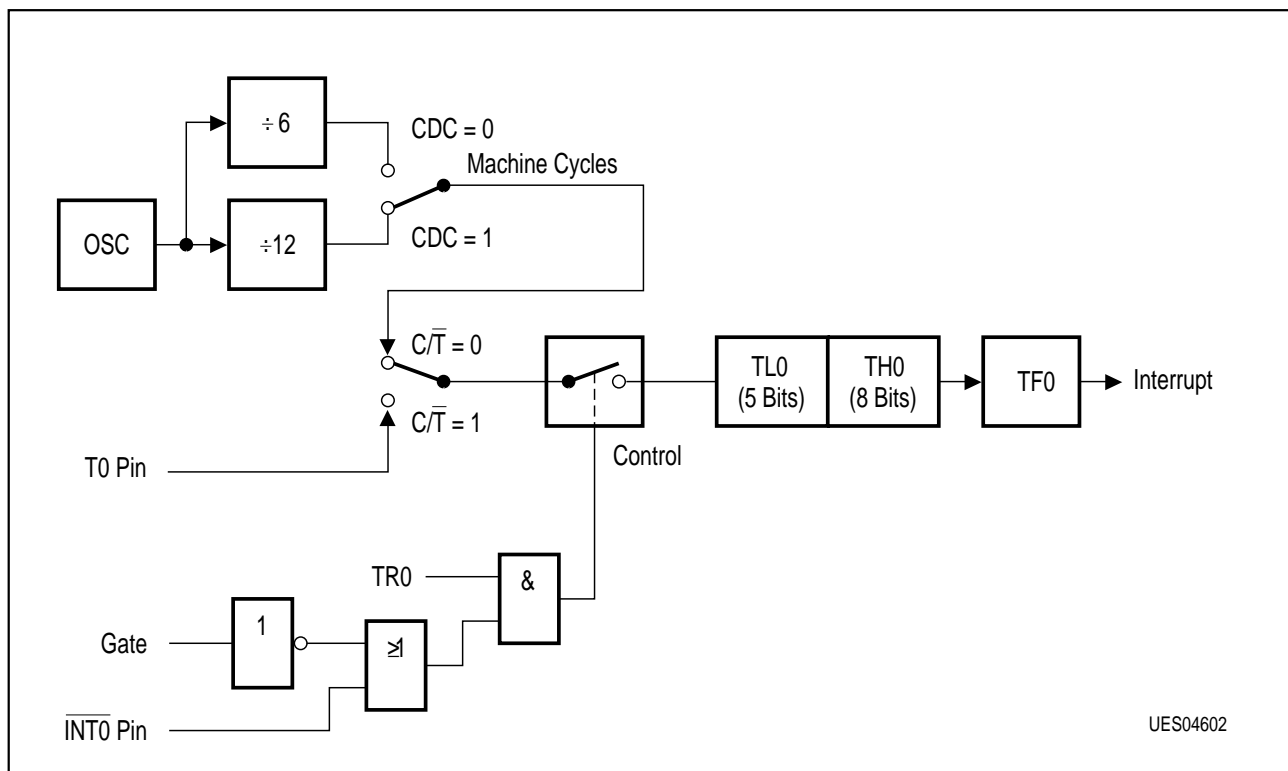

Figure 25
Putting timer/counter 0 into mode 0 makes it look like an 8048 timer, which is an 8-bit counter with a divide-by-32 prescaler. **Figure 25** shows the mode 0 operation as it applies to timer 0.
The use of the timer/counter is determined by two 8-bit registers, TMOD (timer mode) and TCON (timer control), as shown on **page 83** and **84**. The input to the counter circuitry is from an external reference (for use as a counter), or from the on-chip oscillator (for use as a timer), depending on whether TMOD's C/T-bit is set or cleared, respectively. When used as a time base, the on-chip oscillator frequency is divided by twelve or six (see **Figure 25, 26 and 26**) before being used as the counter input. When TMOD's GATE bit is set (1), the external reference input (T1, T0) or the oscillator input is gated to the counter conditional upon a second external input ($\overline{\text{INT0}}$, $\overline{\text{INT1}}$) being high. When the GATE bit is zero (0), the external reference, or oscillator input, is unconditionally enabled. In either case, the normal interrupt function of $\overline{\text{INT0}}$ and $\overline{\text{INT1}}$ is not affected by the counter's operation. If enabled, an interrupt will occur when the input at $\overline{\text{INT0}}$ or $\overline{\text{INT1}}$ is low. The counters are enabled for incrementing when TCON's TR1 and TR0 bits are set. When the counters overflow, the TF1 and TF0 bits in TCON get set, and interrupt requests are generated.